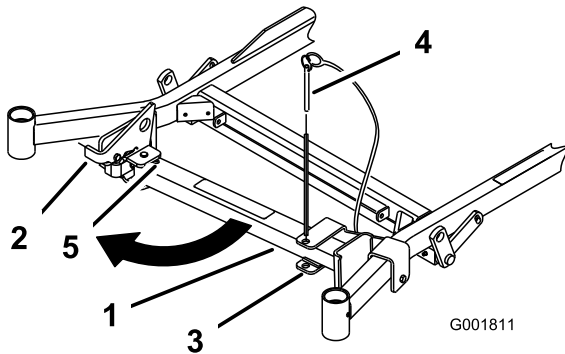
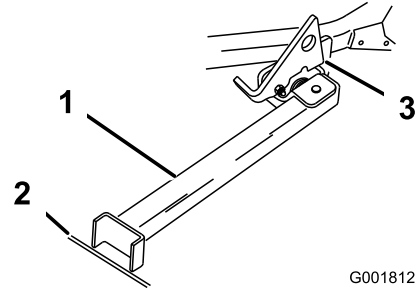

Figure 42
Figure 43
2. Remove the bracket pin (Figure 42).
3. Raise the latch. Swing the stand foot out front and slide stand toward machine, into the bottom of slot (Figure 42 and Figure 43).
6. Set the foot of stand on the ground and rest the latch on the pivot tab (Figure 43).
8. Drive onto the stand. Stop when the latch drops over the tab into the LOCKED position (Figure 43). Once onto the stand, engage the parking brake and shut off the engine.
7. Return the stand to its REST position (Figure 42).